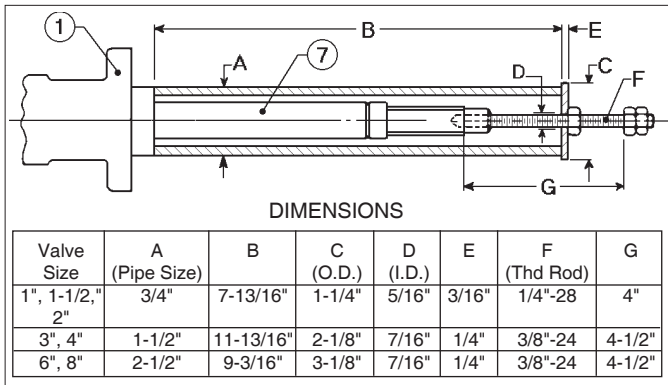

FIGURE 10: Stem Puller
- i. Pull yoke (12), packing flange (14), packing follower (15) and follower bushing strip (16) off over end of stem (7). Replace packing follower (15) if significantly corroded. Always replace follower bushing strip (16) when of standard construction. **(NOTE: When Opt-38HT high temperature packing is supplied, the packing follower (15.1) contains a pressed-in carbon bushing (15.2) that is not field replaceable and must be supplied as a packing follower (15) subassembly.)**
- j. Loosen stem retainer screw (17) by rotating CCW (viewed from above screw head) 2-3 revolutions to check for trapped fluid. After all fluid is vented, remove screw (17).
- k. Rotate stem (7) CW when viewed from actuator end of stem (7) to close plug (6).
- l. Withdraw stem subassembly (7), retainer sleeve subassembly (8) and packing set (13) out of body (1).
NOTE: If difficulty is encountered in removing the stem subassembly (7), use a puller assembly. See Figure 10. Hold the double nut with a wrench to prevent rotation of the stem as this could damage the seals if the trim is still in the valve body (1). Use the single nut to jack the stem subassembly (7) out.